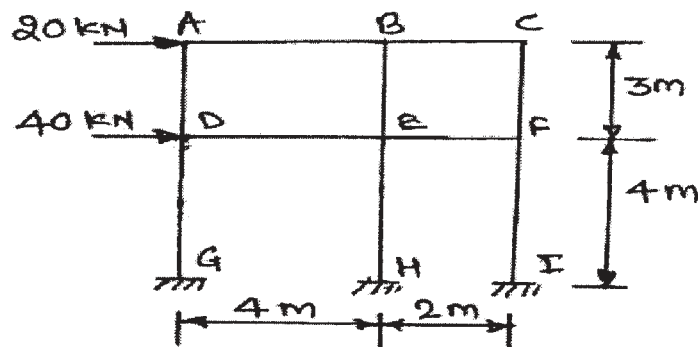

Fig. 11
b) Determine the approximate values of moment, shear, and axial force in each member of frame loaded and supported as shown in fig. 11. Draw B.M.D. Use portal method. [10]